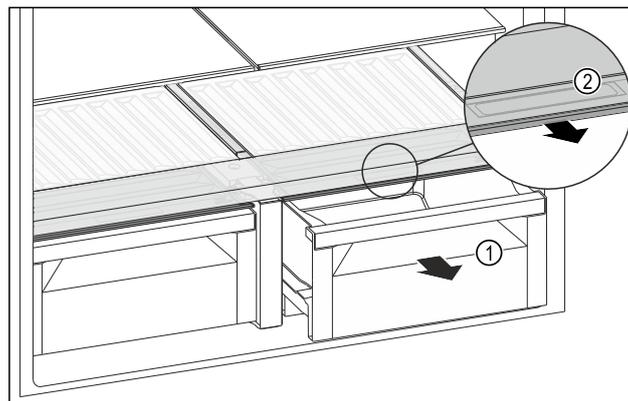

Fig. 138
- ▶ Pull out the drawer Fig. 138 (1).
- ▶ Grasp the recessed grip Fig. 138 (2) on the compartment lid and pull the compartment lid forwards at the same time.